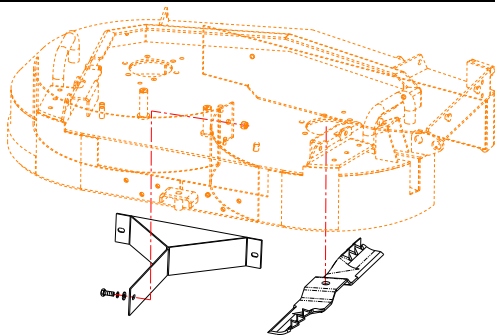

FIG 4
- Mulching Blade and Mulch Baffle (AS36006): See FIG 4